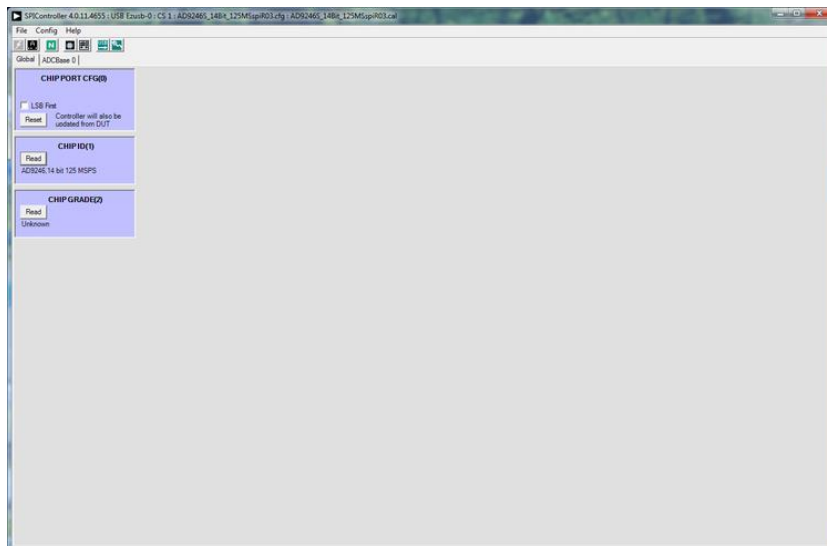

Figure 6. SPI Controller, CHIP ID(1) Box
1. Open the SPI controller software by going to the **Start** menu or by double-clicking the **SPIController** software desktop icon. If prompted for a configuration file, select the appropriate one. If not, check the title bar of the window to determine which configuration is loaded. If necessary, choose **Cfg Open** from the **File** menu and select the appropriate file based on your part type. Note that the **CHIP ID(1)** box should be filled to indicate whether the correct SPI controller configuration file is loaded (see Figure 6).